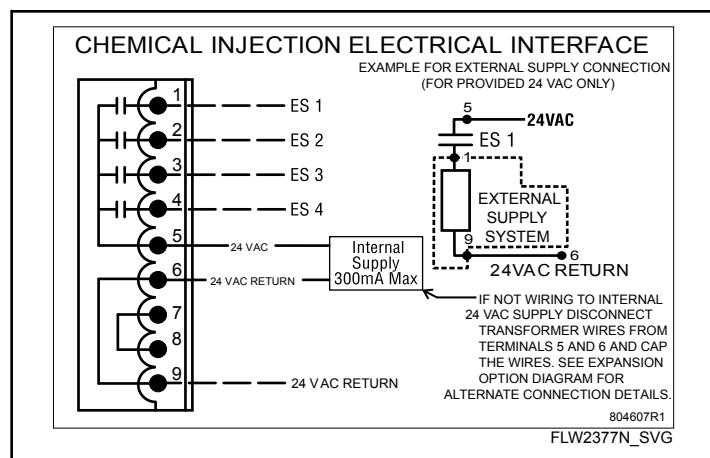

Figure 14
4. Refer to supply injection system instructions and label inside washer junction box cover (*Figure 14*) for electrical connection.